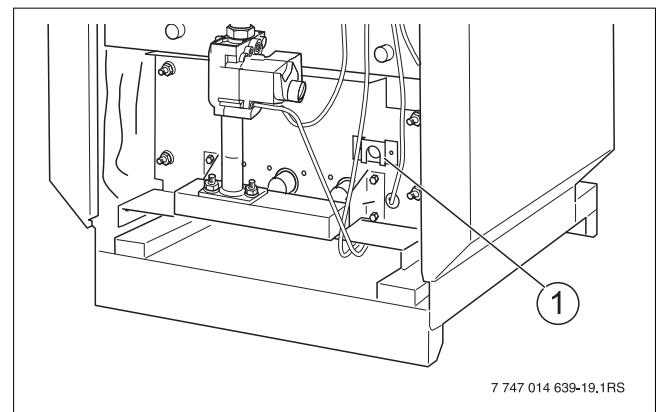

Fig. 10 G234X boiler
- ▶ Observe pilot flame through the inspection hole in the burner cover (→ Fig. 10,[1], page 9).